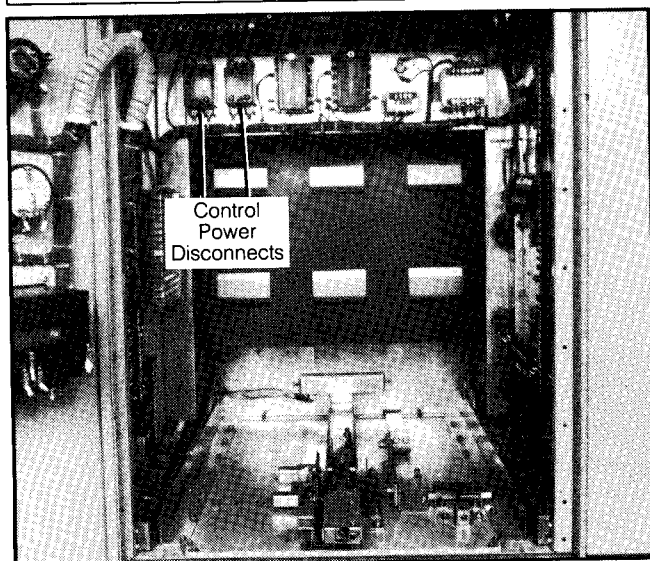

Figure 1. Control Power Disconnect.
When the circuit breaker is mounted in switchgear, open the control power disconnect device in the metal-clad switchgear cubicle. **Figure 1** shows the location of this disconnect in a standard two-high switchgear assembly.
The control power disconnect device is located on the device panel above the lower circuit breaker and below the upper circuit breaker. **Figure 1** shows a pullout type fuse holder. Removal of the fuse holder de-energizes control power to the circuit breaker in the respective switchgear cell. In some switchgear assemblies, a molded case circuit breaker is used in lieu of the pull out type fuse holder. Opening this circuit breaker accomplishes the same result: control power is disconnected.
1. Open control power circuit by removing pullout fuse holder shown in **Figure 1**.
4. Energize (close) the control power secondary disconnect (**Figure 1**).